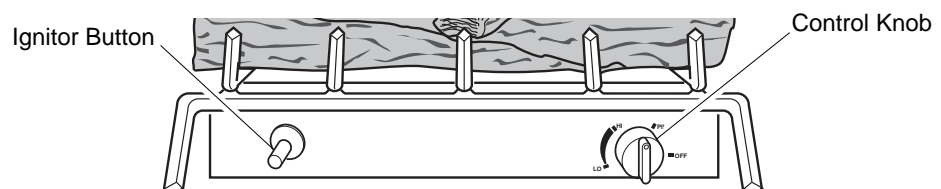

Figure 22 - Control Knob and Ignitor Button Location Continued
4. Wait five (5) minutes to clear out any gas. Then smell for gas, including near the floor. If you smell gas, STOP! Follow “B” in the safety information on page 21. If you don’t smell gas, go to the next step.
5. Slightly depress and turn control knob counterclockwise  to the PILOT position. Keep control knob pressed in for five (5) seconds (see Figure 22, page 22).